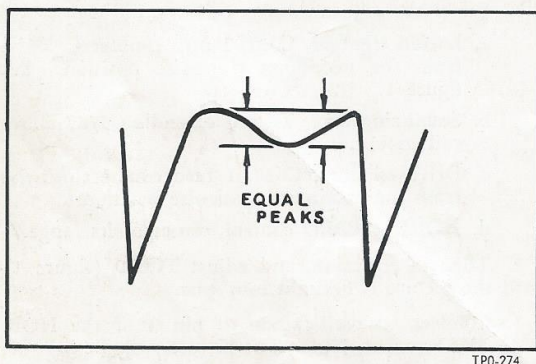

Figure 2. Horizontal Sweep — Horizontal Stabilizing Core Properly Adjusted
4. Adjust the stabilizing core, TC601, so that the 2 peaks (figure 2) are of equal amplitude, readjusting TC600, if necessary to keep the picture in sync.